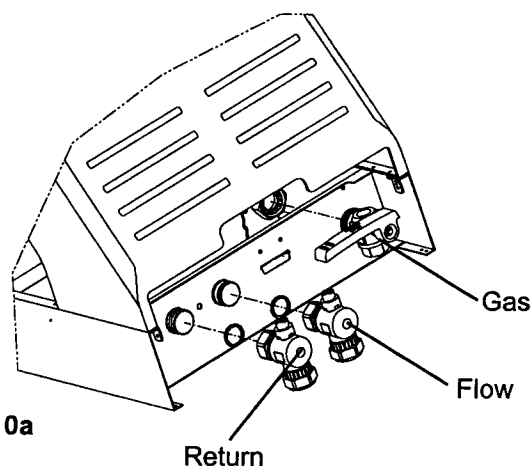

Fig.10a
5.3.4 Loosely fit (hand tight) the valves and fittings using the washers supplied (Fig.10a).